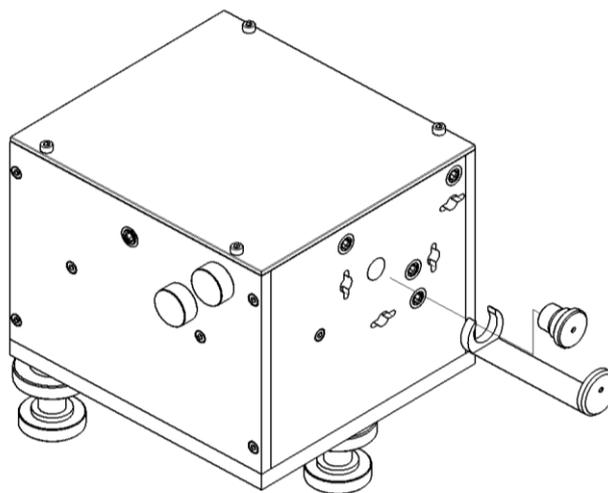

Fig.4
5. Install the external aperture as depicted Fig.4